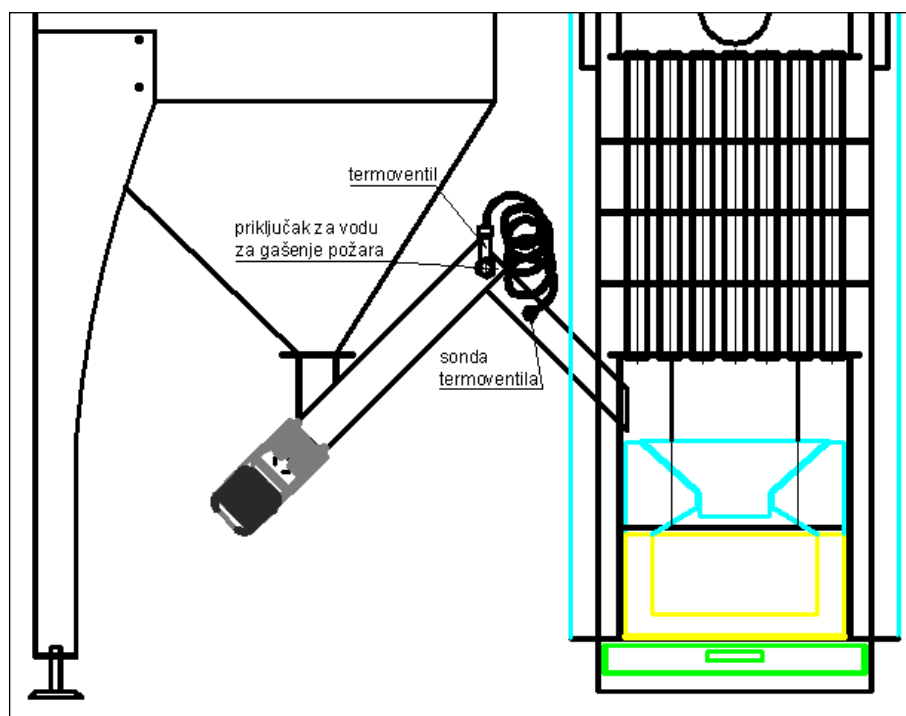

Figure 11. Connection site of thermo valve with the pellet dosing system (PP set)
- In the case of the chimney of a really bad quality mentioned air may be insufficient to prevent entrance of the air into the storage. Thermo valve activates then (see Figure 11) which opens on a temperature of 95°C and enables the supply of water which through the system on thermo valve partly enters the screw conveyor and the dosing pipe, and partly in the pellet screw conveyor and thus performs fire fighting. Thermo valve together with its probe (see Figure 11) is factory installed into the boiler. The obligation of the customer is to provide a water supply for fire fighting on the thermo valve connection (connection is 1/2") (see Figure 11).